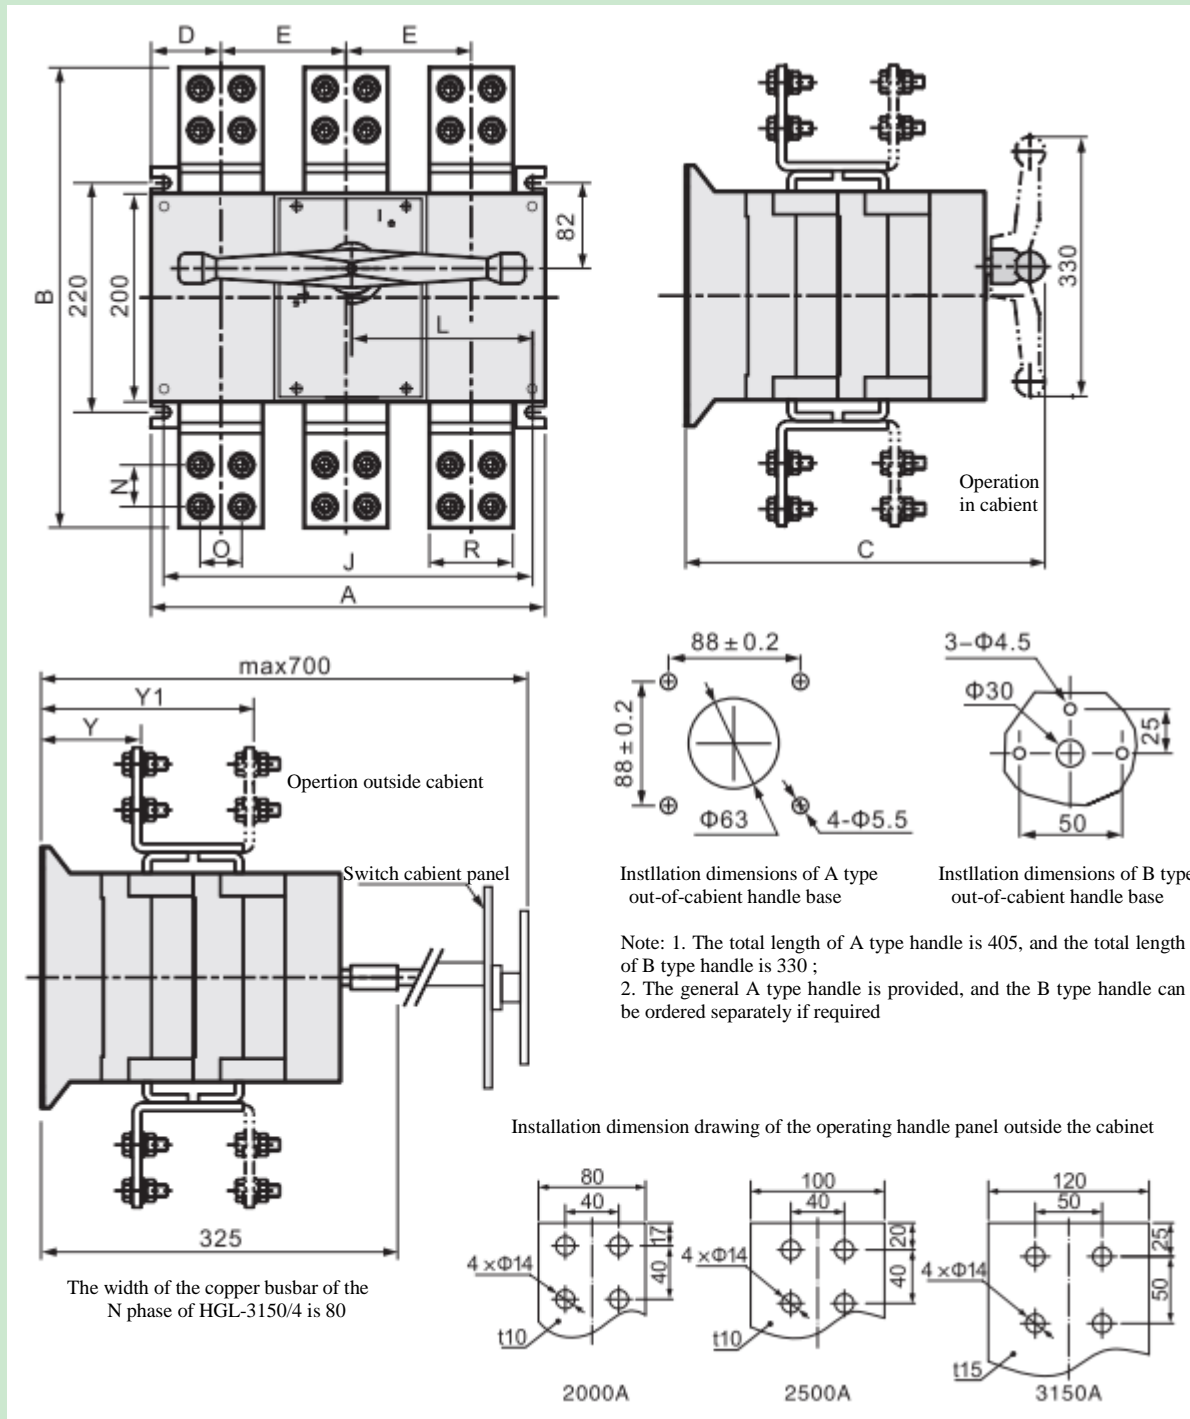

Fig. 16: Installation dimension drawings of HGL, HGLi-2000 ~ 3150 series switch disconnector
6.11 The installation dimensions of HGL, HGLi – 2000 ~ 3150 series switch disconnector are illustrated in Fig. 16 and Table 6.